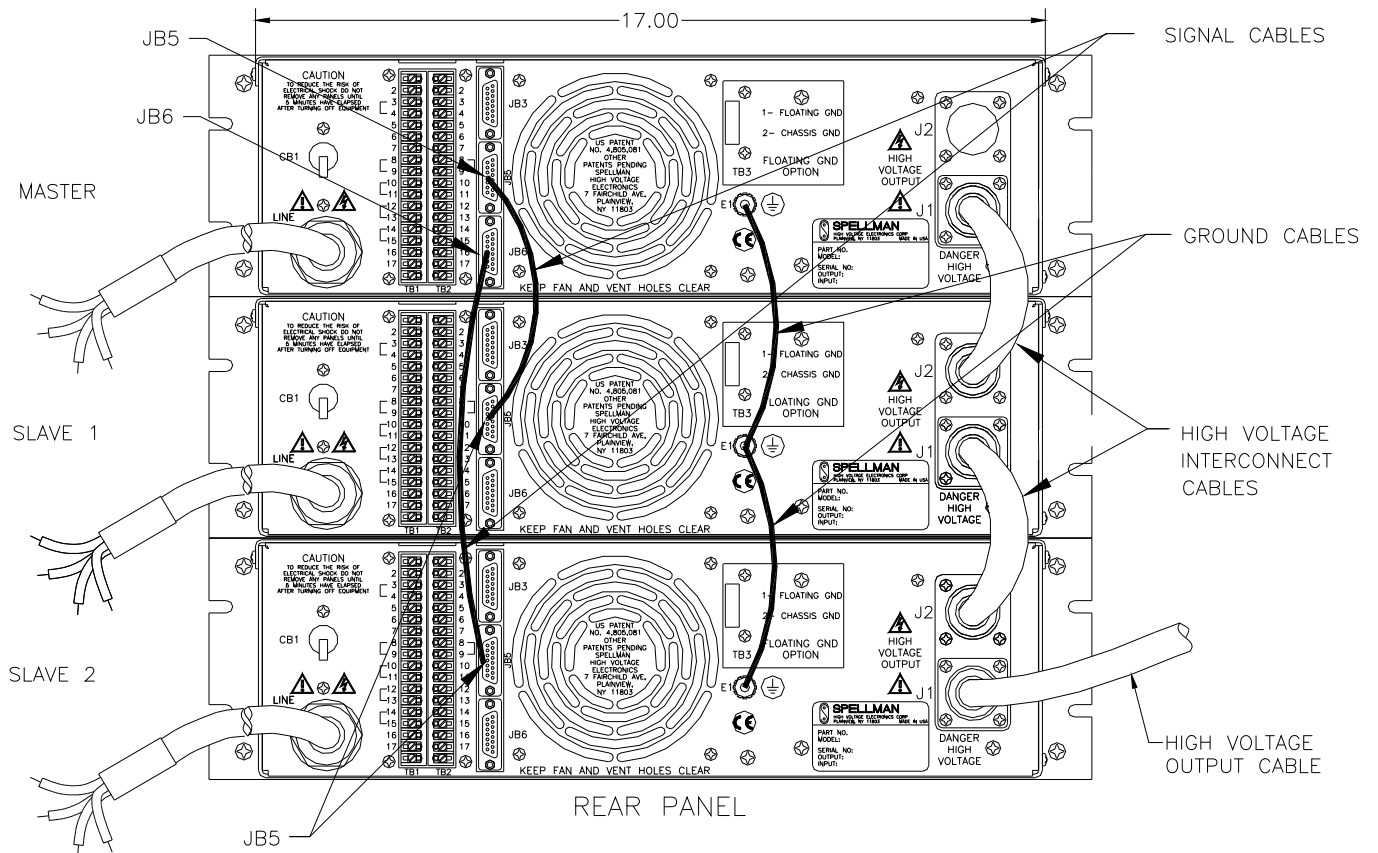

Figure 5.6 12kW Installation Drawing
1. Install the racks per Figure 5.6.